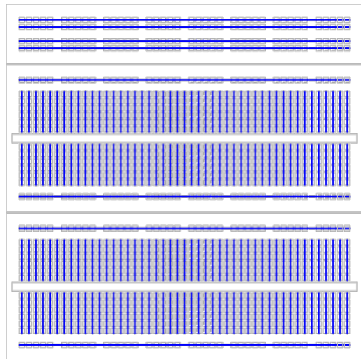

Figure 1 Breadboard
- Use the buses (the long horizontal strips shown in Figure 1) for power and ground connections. Good bus habits will save you lots of time and trouble with complicated circuits by making your circuit wiring more transparent and by removing unnecessary clutter.
- Build your circuits **compactly**. Long leads between components introduce stray capacitance and can result in oscillations or high frequency [e.g., radio frequency (RF)] pickup.